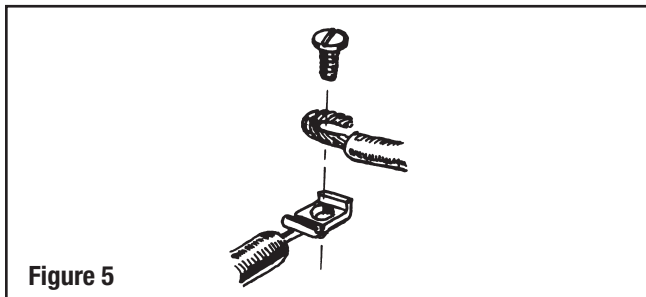

Figure 5
6. Assemble terminal, screw and wire as shown in Fig. 5.